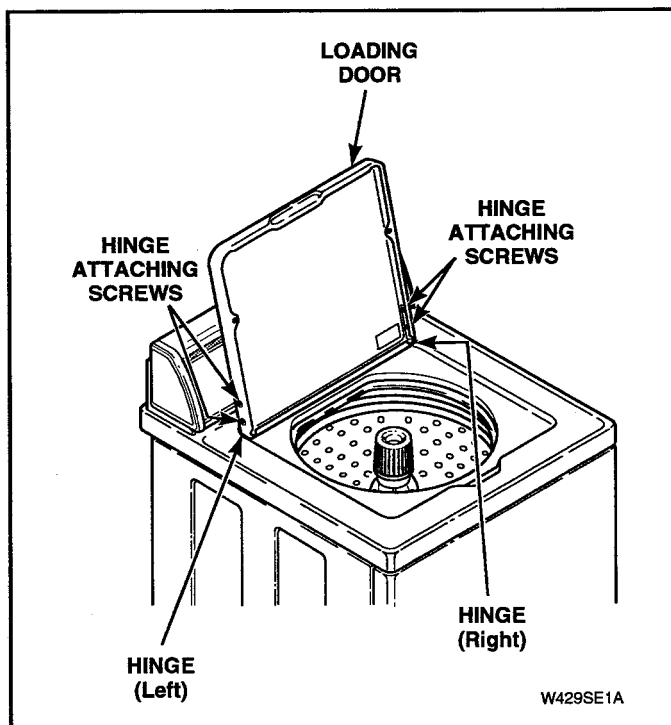

Figure 5-6
- Open loading door. See Figure 5-6.
- Remove two screws holding left hinge to door and remove hinge. See Figure 5-6.